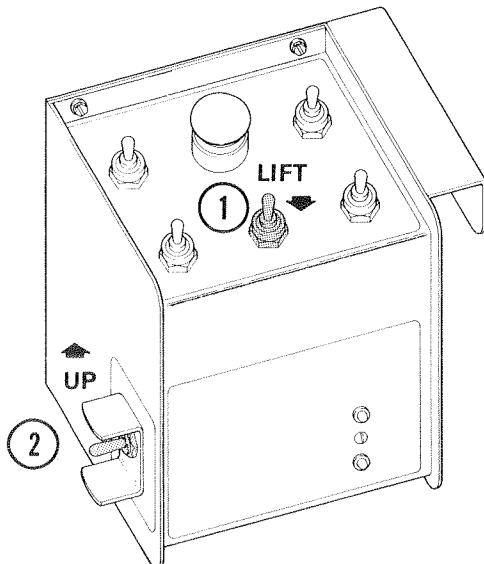

Figure 13. Raising Platform.
2. Move lift/drive toggle switch to lift, (1) Figure 13.
3. Move up/down toggle switch to up, (2) Figure 13.